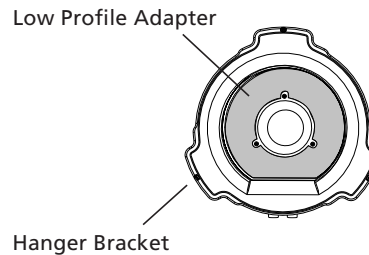

Figure 3c - Attaching the low profile adapter.
3. Align the three slots in the low profile adapter with the three screw holes in the fan assembly as shown in Figure 3c. Thread one of the #8-32 x 3/4" SEMS screws into the threaded hole in the fan